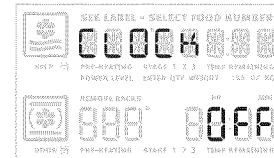

Fig. 3
2. Use the +hi & -lo to toggle to the CLO off option -Fig. 3-	+ - hi or lo